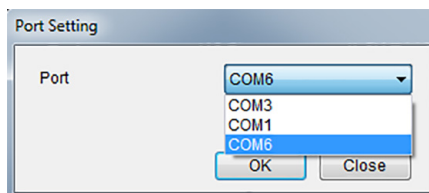

Figure 1.3—Port Setting dialog
3. The *Port Setting* dialog (Figure 1.3) will appear. Select the port assigned to the modem connection and click **OK**.